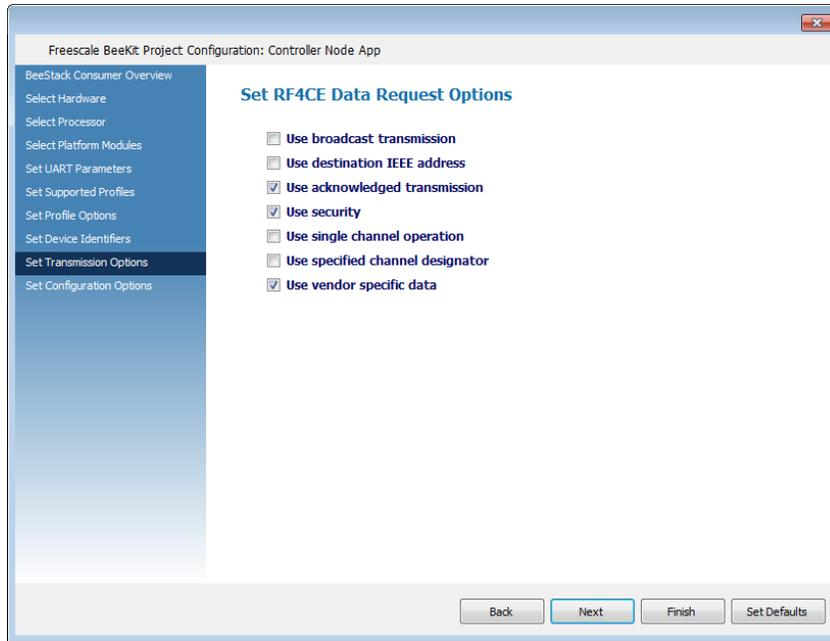

Figure 2-11. Set RF4CE Data Request Options Page
10. The Set RF4CE Data Request Options page appears as shown in Figure 2-11.